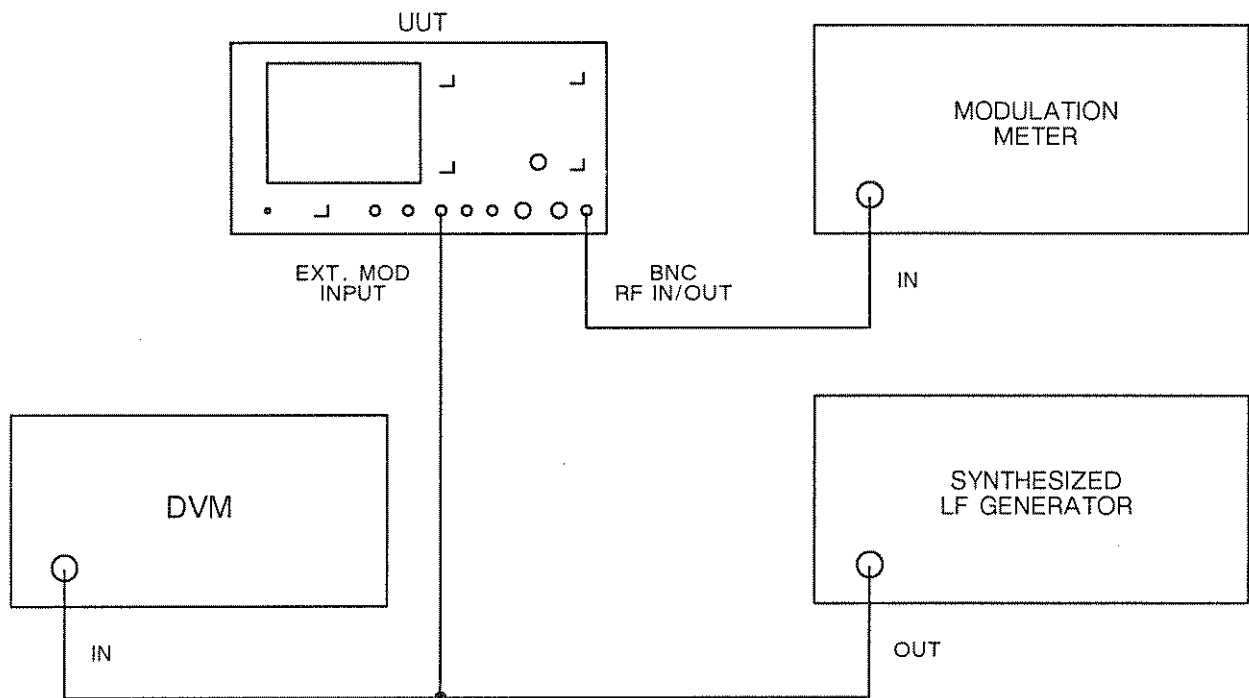

Fig. 5-23 Test equipment connections for RF generator external AM and FM
- (1) Connect the equipment as shown in Fig. 5-23.